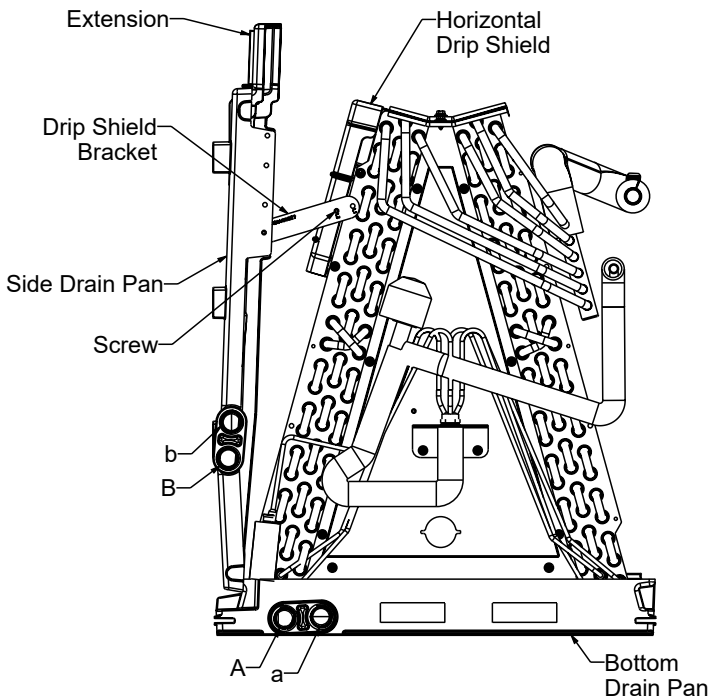

Figure 1
Side Drain Pan and Extension Removal: Refer to Figure 1; remove the two (2) screws that secure the drip shield support brackets to the horizontal drip shield (front and back). Unsnap the side drain pan from the bottom drain pan using a screw driver or any small lever. The side drain pan, drip shield brackets and the drain pan extension may now be removed. From Figure 1, drain port labeled (A) is the primary drain for this application and condensate drain line must be attached to this drain port. Drain port (a) is for the secondary drain line (if used).
Drain port labeled (B) in Figure 1 is the primary drain for this application and condensate drain line must be attached to this drain port. Drain port (b) is for the secondary drain line (if used).
Drain port labeled (B) in Figure 1 is the primary drain for this application and condensate drain line must be attached to this drain port. Drain port (b) is for the secondary drain line (if used). In applications where the air handler is installed in the horizontal left position, and the return air environment see humidity levels above 65% relative humidity coupled with total external static levels above 0.5" e.s.p., installation may require a field fabricated or field supplied secondary drain pan under the coil cabinet enclosure.